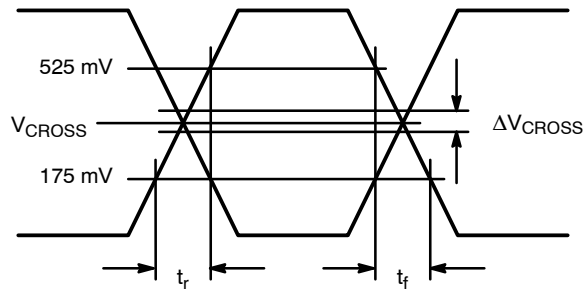

Figure 4. HCSL Output Parameter Characteristics
**HCSL OUTPUTS** (Figure 4)
| $\Delta t_r$ , $\Delta t_f$            | Variation in Magnitude of Risetime and Falltime (Single-Ended)(See Figure 4)$Qx, \overline{Qx}$                         |     |     | 125              | ps             |